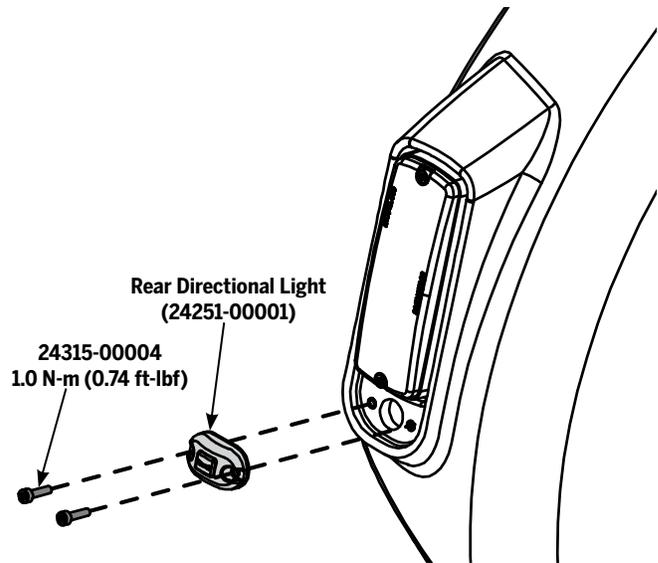

Figure 59: Rear Directional Light
4. Using a 3 mm hex wrench, remove the two fasteners. See **Figure 59**.
4. Slide the plastic sleeves onto the fasteners, then install the fasteners (**Figure 59**).